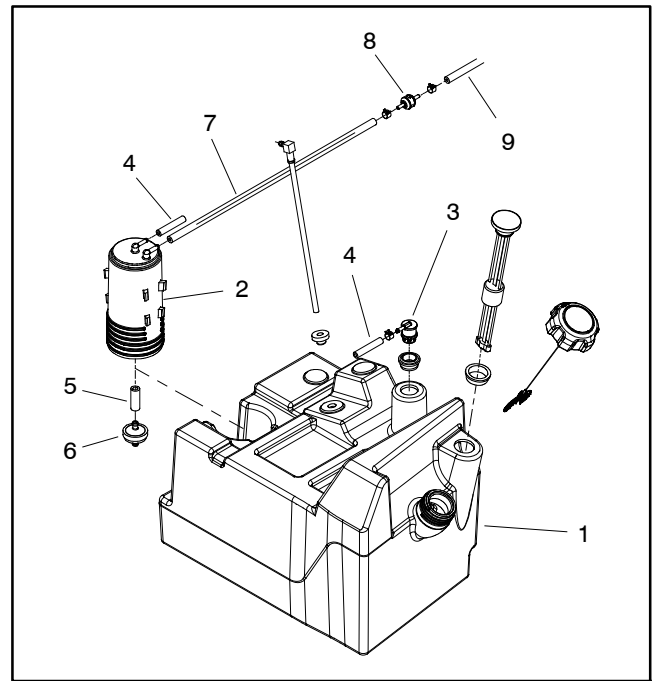
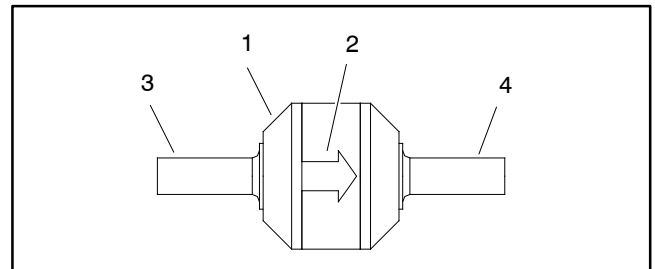

Figure 15
Figure 16
Machines with a carbon canister include a single engine connection to the engine intake system that is used to connect the evaporative system to the engine. These machines use an inline check valve between the carbon canister and the engine fitting. Evaporative control system components for Workman MD vehicles are shown in Figure 15.
2. Remove components as needed using Figure 15 as a guide.
A. If check valve (item 8 in Fig. 15) is removed, note direction of arrow on valve body for assembly purposes (Fig. 16).
1. Install all removed components using Figure 15 as a guide.
A. If check valve (item 8 in Fig. 15) was removed, make sure that arrow on valve body points toward engine.